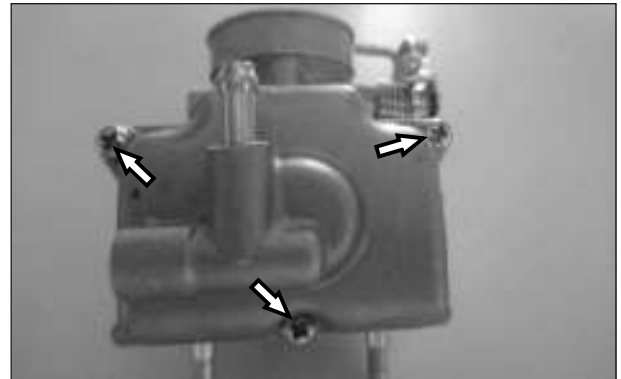

Fig. 4.22
- Loosen and remove 3 nos. float body fixing screw from the float body assembly mounting. (Fig. 4.22)